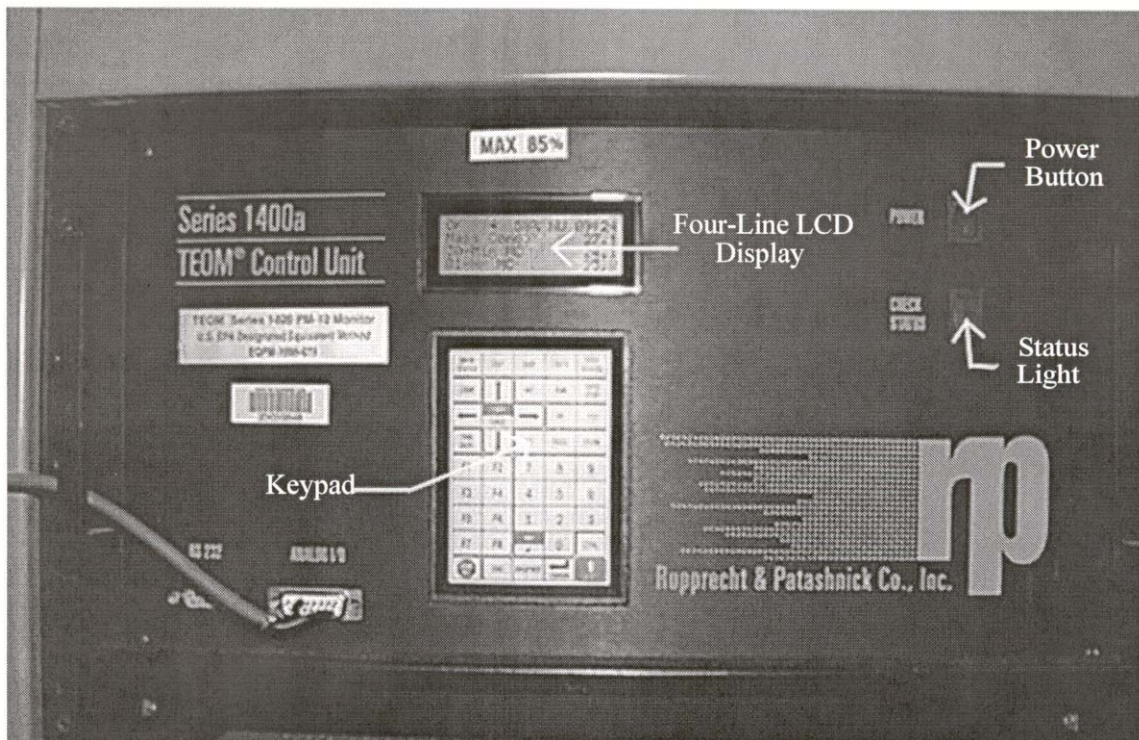

Figure V.2.0.2
2. Reset the Series monitor by pressing the <Fl> key on the front panel of the control unit (see Figure V.2.0.2).